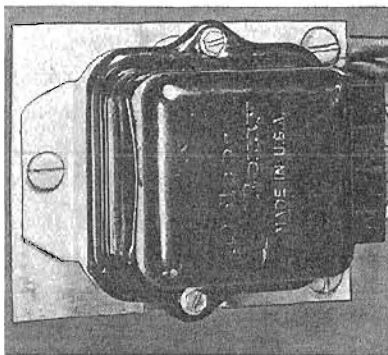

Figure 7
4. Remove 3 screws which fasten regulator to mounting bracket and remove regulator. (Figure 7)
7. Place terminal of black harness lead on one regulator attaching screw and fasten regulator to mounting bracket with 3 screws. (Figure 7)